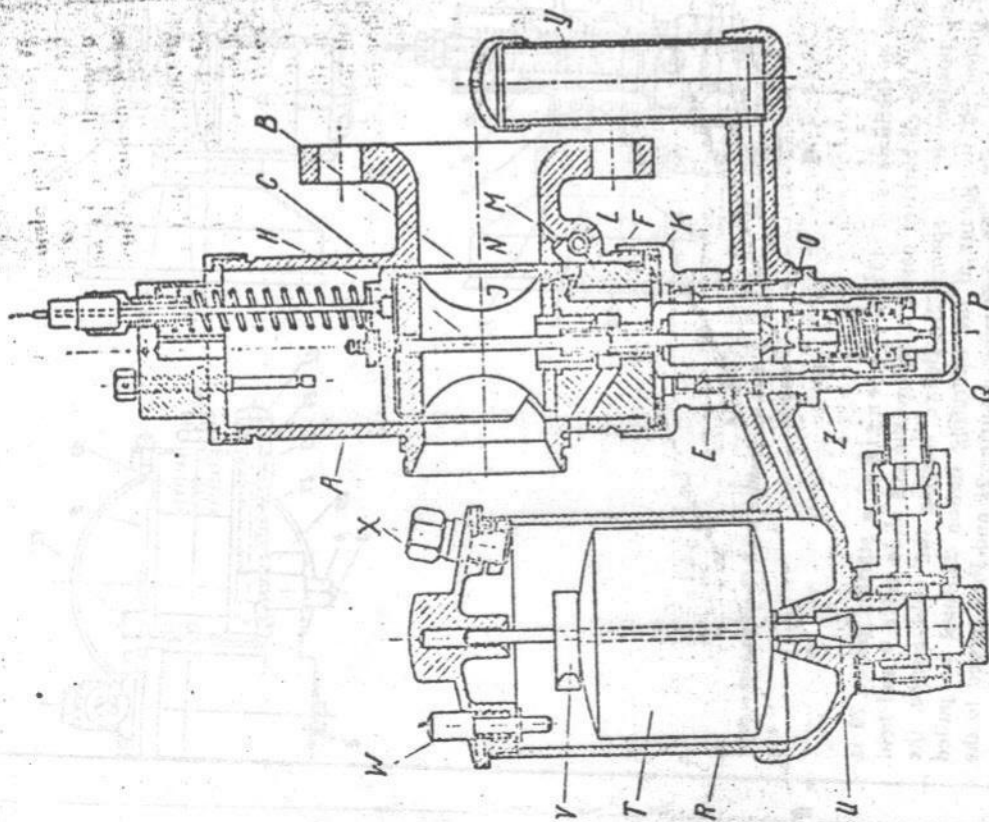
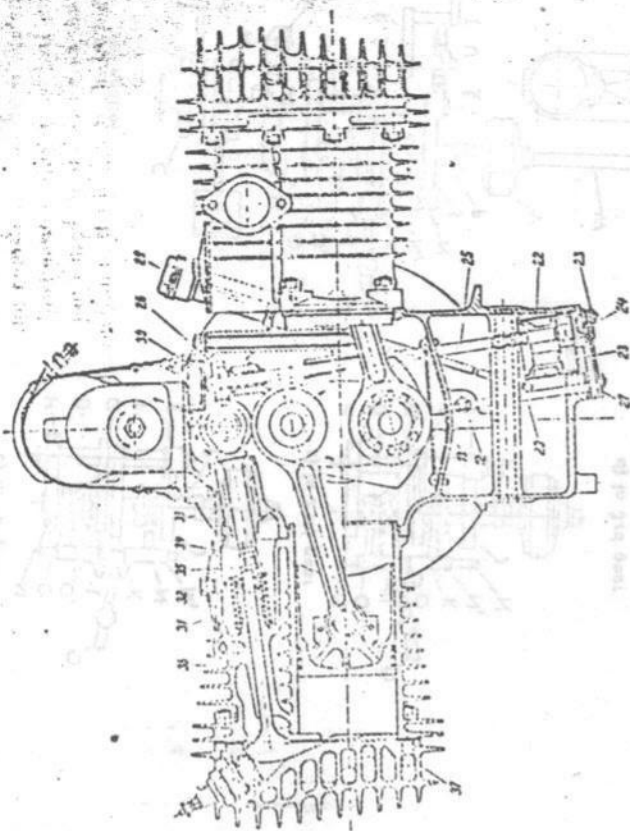

Fig. 15 Carburettor of the two-carburettor towing machine
Fig. 20 Touring engine with partial cross section through the middle of the cylinder
c) Float chamber: The float chamber must be cleaned with petrol after about every 2000-2500 miles. At the same time the needle valve should be checked. For this purpose the cover of the float-chamber must be taken off. With the carburettors of the R 12 two-carburettor machine the clamping screw X (fig. 15) must be unscrewed first to be able to screw off the cover. Then the clamp spring V on the carburettor valve needle U
must be removed whereupon after removal of the connecting piece of the petrol piping at the bottom, the float chamber may be taken out downwards. (Fig. 15.)
a) Valves of the R 12 model (fig. 20). The valves are completely enclosed, located at the side of the cylinder and are operated from the camshaft 1 by enclosed tappets 33. Any oil that might leak out at the tappets is conducted back into the casing through a return flow bore, so that any escape of oil outside the engine is made impossible. Through a detachable protective cover the ends of the valve stem and the tappets are easily accessible for the purpose of adjustment of the valve clearance.
A rotary geared pump (fig. 20) built in the lower part of the crankcase sucks the oil through a filter 22 by the action of the two gear wheels 23 and 24, the latter of which is driven by means of a shaft 25 and worm wheel 26 by the worm on the camshaft 1.
Part of the oil is conducted by the oil pump into the oil filter 17 through rising pipe 20 (fig. 20), oil distributing pipe 12, and oil jet 21 (fig. 15) and leaves it completely purified to be conducted back to the oil pump through the oil well.
With the carburettors of the R 12 and R 17 two-carburettor machine a tickler W is arranged in the cover of the float chamber which on pressing down keeps the float valve U open and thus shows whether there is a proper flow. When kick-starting the engine, more fuel is supplied to the jets by operating the tickler W which considerably facilitates starting (fig. 15 and 16). Regarding the maintenance of the carburettors see page 20.